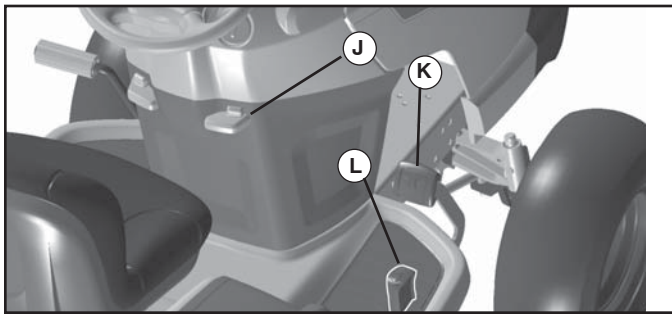

FIG. 6
TO MOVE FORWARD AND BACKWARD (See Fig. 6)
- Slowly depress forward (K) or reverse (L) drive pedal to begin movement. Ground speed increases the further down the pedal is depressed.
TO USE CRUISE CONTROL (J) (See Fig. 6)